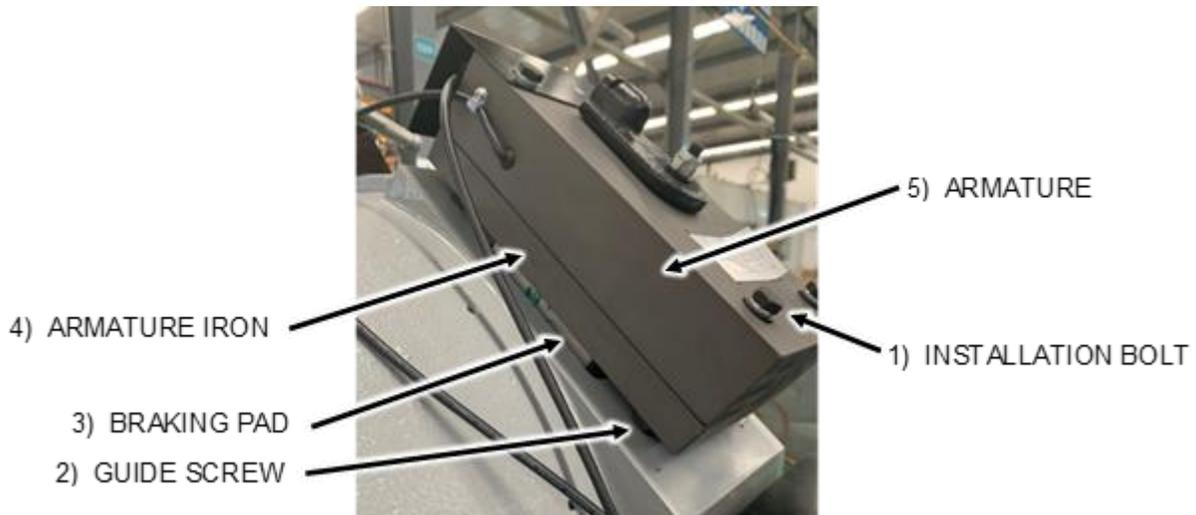

Figure 39
7. Adjust the guide screw sleeve of guide screw 2 and the mounting bolt of insulation bolt 1, so that the air gap between the armature of armature 5 and the armature of armature iron 4 is between 0.012" (0.30 mm) to 0.022" (0.55 mm), the gap between the brake belt and the brake wheel is 0.004" (0.10 mm) to 0.006" (0.15 mm), and the distance between the guide screw sleeve of guide screw 2 and the iron surface of armature iron 4 is about 0.197" (5 mm), no less than 0.118" (3 mm) under any conditions, as shown in Figure 39.